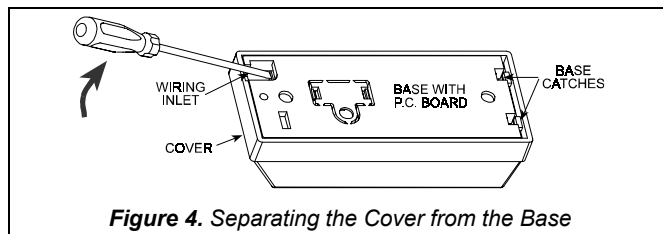

Figure 4. Separating the Cover from the Base
B. Remove the unit's cover as shown in Figure 4.